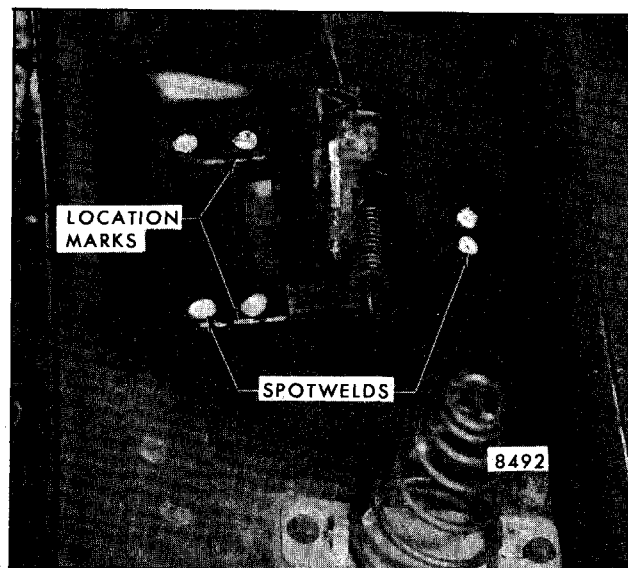

Fig. 4-27-Hood Latch Assembly - "H-11, 15 and 77"
The hood latch assembly on "H" body styles (less "H-07,27") is mounted to the underside of the shroud upper panel with six spot welds (Fig. 4-27). The latch is therefore not adjustable.
2. Scribe position of right and left side of latch onto shroud upper panel, as shown in Figure 4-27 to provide proper location for replacement latch assembly.